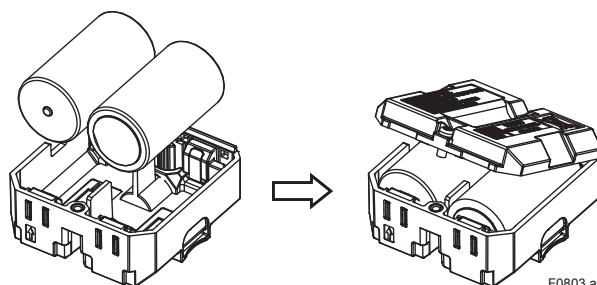

Figure 8.3 Assembling the Battery Pack
2. As shown in Figure 8.3, engage the hooks on the opposite side of the screw.